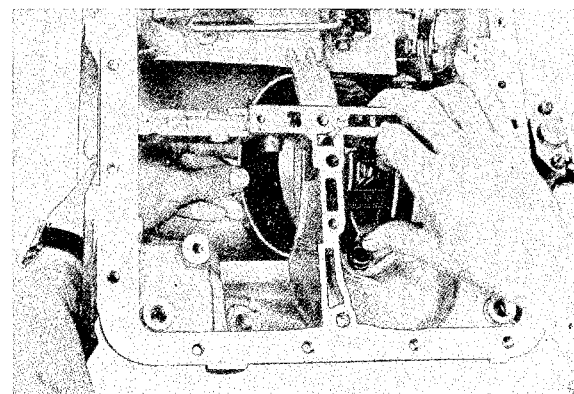

Fig. 4-97. Installing rear brake band
6. Place the rear brake band in position in the case, see Fig. 4-97. Then fit the rear servo assembly. Tighten only the rear (short) servo screw since the long one also locates the center support.